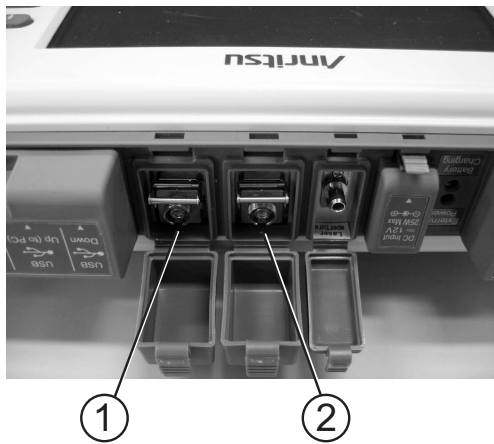

Figure 2-6: Measurement Ports
1. Clean and connect a patch cord of known good quality to the desired measurement port. See Figure 2-6.